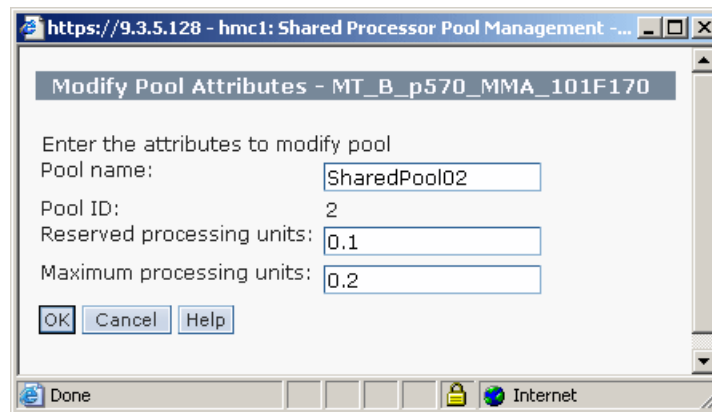

Figure 3-2 Modifying the shared processor pool attributes
4. Enter the maximum number of processing units that you want the logical partitions in the shared processor pool to use in the **Maximum processing units** field. If wanted, change the name of the shared processor pool in the **Pool name** field, and enter the number of processing units that you want to reserve for uncapped logical partitions in the shared processor pool in the **Reserved processing units** field (Figure 3-2).